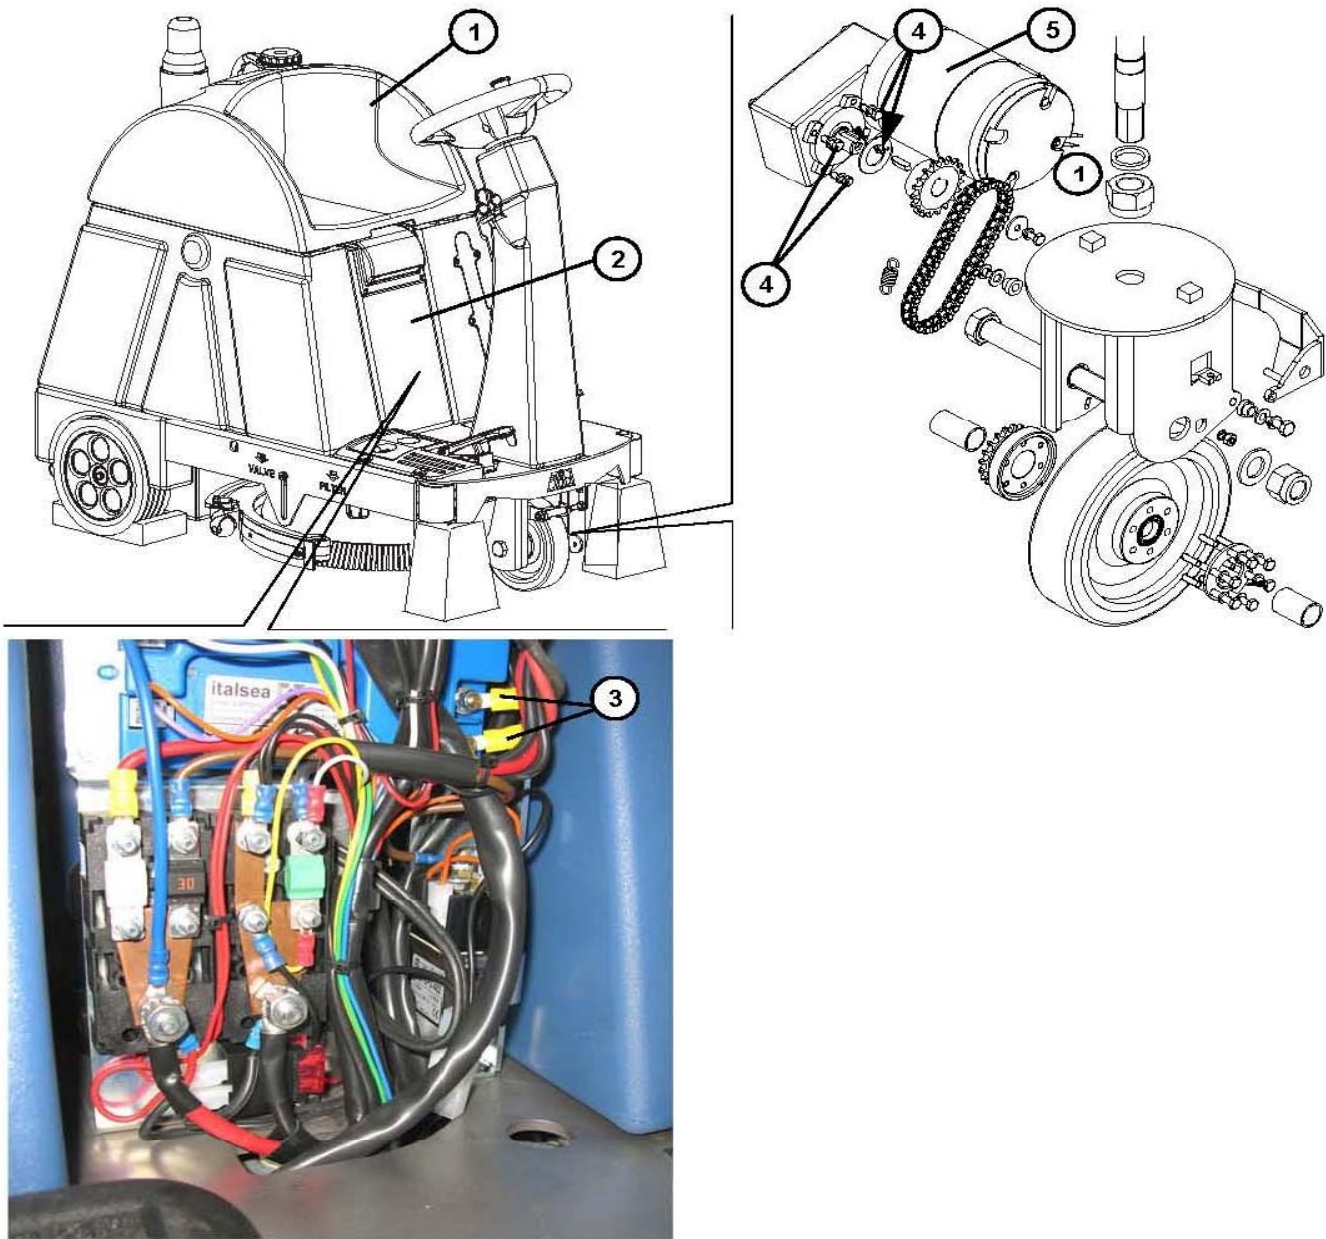

Figure 9-6
4. Open the cover (1, **Figure 9-6**) and remove the panel (2) by lifting it up. Lower the cover back down (1).
5. Disconnect the electrical connections (3) of the drive motor from the drive electronic board.
6. Unscrew the retaining screws (4) for the drive motor.
7. Remove the drive motor. (5).